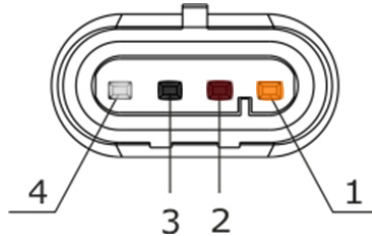

Figure 17 — DUT-E AF interface cable connector pinout
**DUT-E AF** electrical connection is made according to pinout of the connector and interface cable wires description. See Figure 17 and Chart 6 for details.